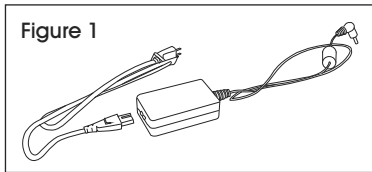

Figure 1
1. Plug power cord into power adapter and plug power adapter into power connector on back of the printer. (See Figure 1)